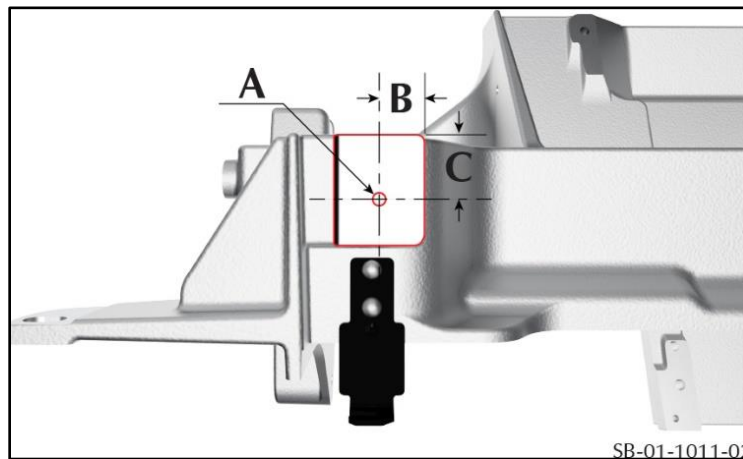

**Figure 7**
Figure 7 shows the initial design of the cross-car beam assembly. The hole (A) that has a thread for the M6 bolt is:
- 16.6 mm from the inboard edge (B)
- 23.3 mm from the rearward edge (C)